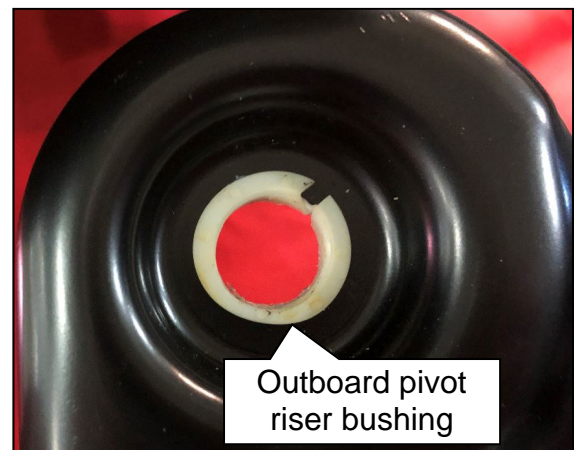

Figure 10
11. Place the rear outboard pivot riser on a suitable work surface, with the outer side facing upward (Figure 10).